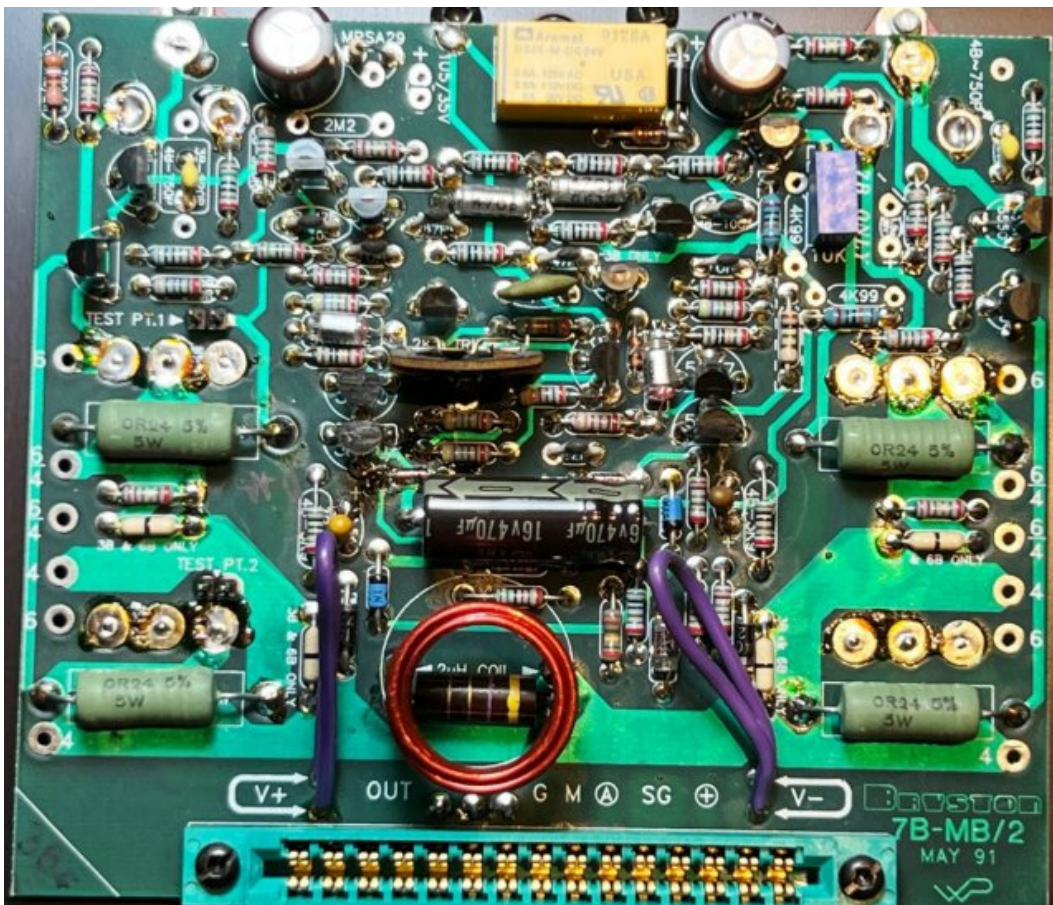

Figure 9. Two tantalum capacitors on either side of the black axial capacitor, closeup of a removed tantalum burnt/leaking.
- * Found the 33V Zener diode voltages supplying the input differential pairs was unstable. Problem traced to the 1.5 uF / 35V tantalum capacitors paralleled across the Zener diodes had become discolored and were leaking (Fig 9).